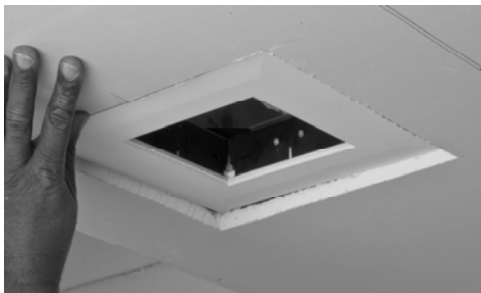

Figure 5
5. Prepare drywall by cutting square hole to accommodate lower portion of interface board. 4" (10 ¼" sq.) 6" (12 ¼" sq.). Install drywall to ceiling. Drive (4) 1 ¼" drywall screws to ensure tight fit between drywall and board. Install screws 1" out from the seam on 4" squares and 1 ½" out from the seam on 6" squares. (see Figure 5)